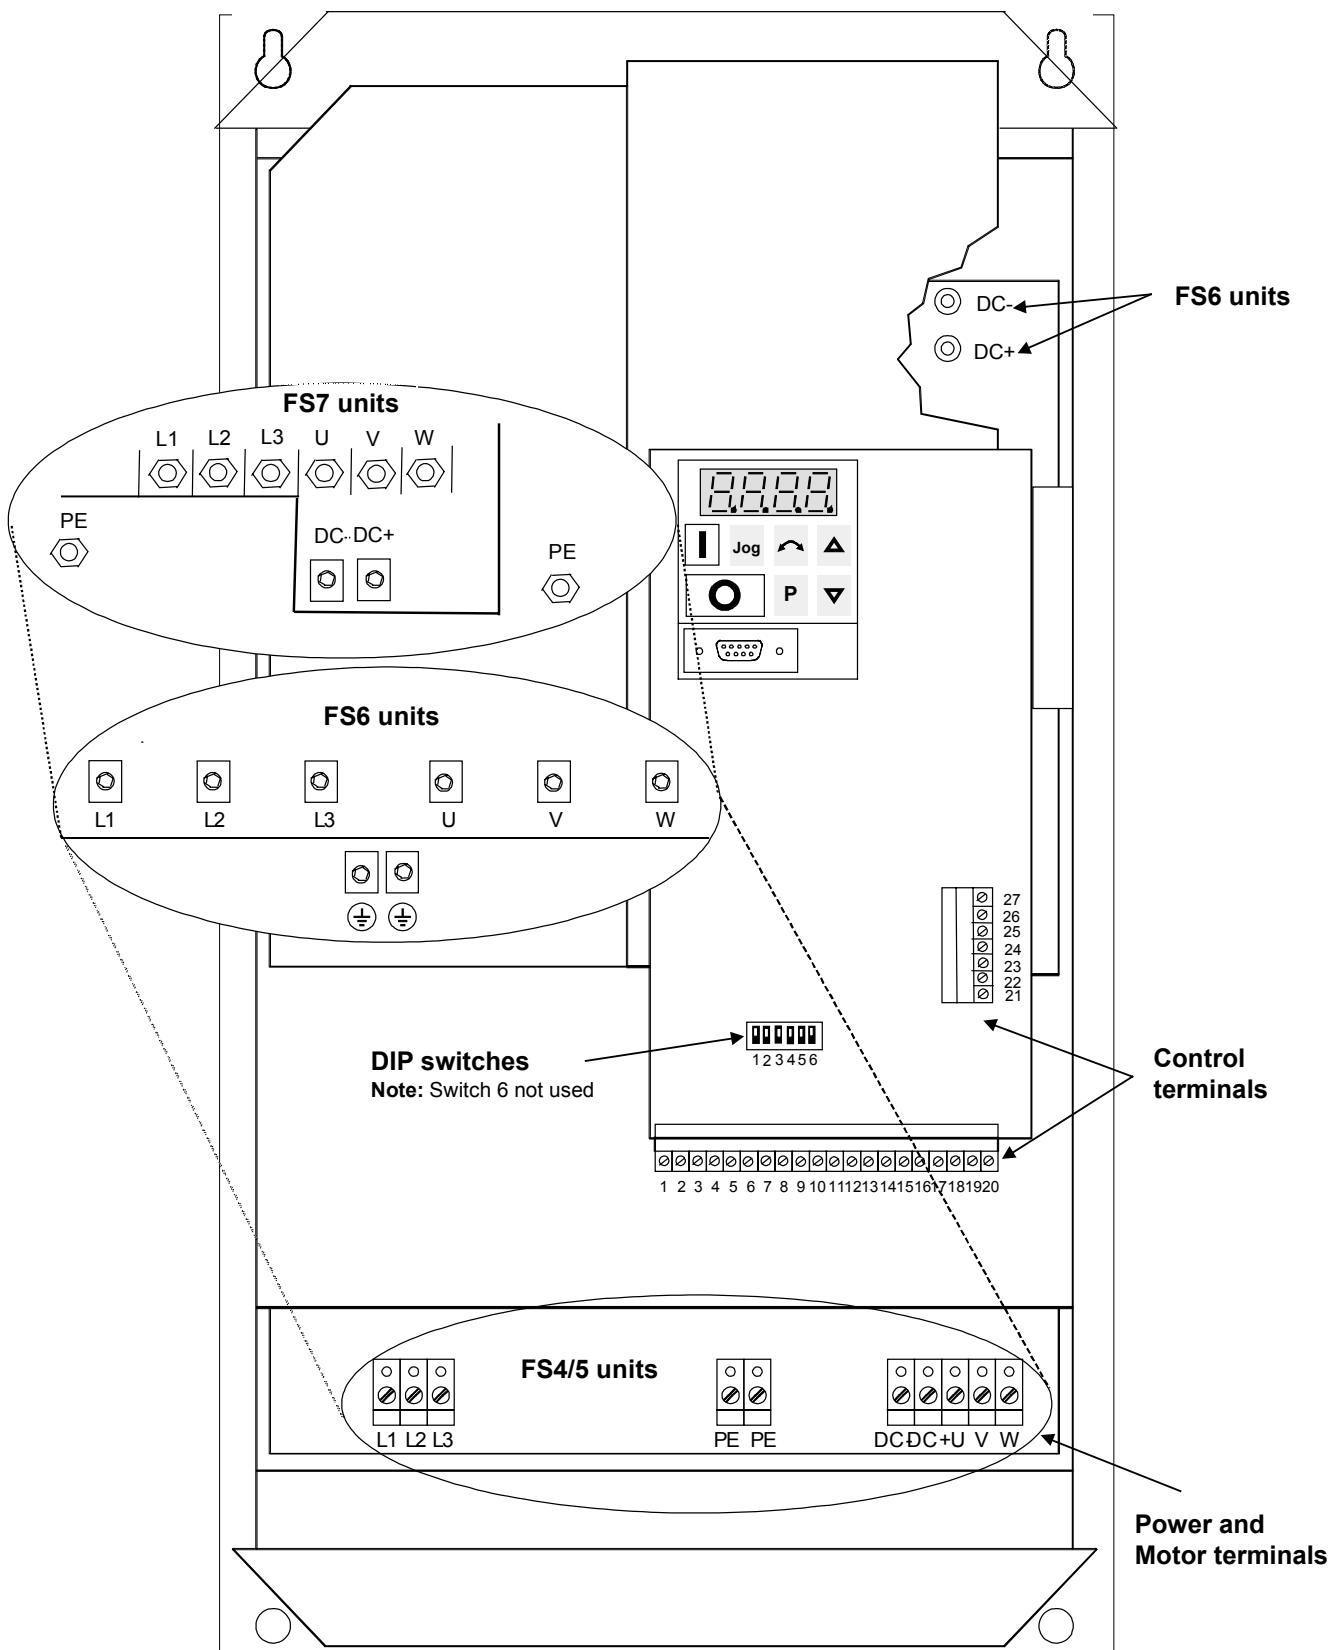

Figure 3.2.1: MIDIMASTER Vector Connectors
The electrical connectors on the MIDIMASTER Vector are shown in Figure 3.2.1.
2. Connect the power input to the power terminals L1, L2, L3 (3 phase) and earth (PE) (*shown in Figure 3.2.1*) using a 4-core cable and lugs to suit the cable size. For the cross-section of each core, see section 8.
3. Use a 4-core screened cable and suitable lugs to connect the motor leads to the motor terminals U, V, W and earth (PE) (*shown in Figure 3.2.1*).
Control connections to the MIDIMASTER Vector are made via two terminal blocks located as shown in Figure 3.2.1. The terminal blocks are of a two-part design. The part containing the screw terminals can be unplugged from it's housing before wires are connected. When all connections to the terminals have been made (as shown in Figures 3.2.1 and 3.2.2) and secured, the terminal block must be plugged firmly back into it's housing.
- for Frame size 4, 5 and 6 the front cover is removed (see Figure 3.2.1).
- for Frame size 7 the lower front cover is removed (see Figure 3.2.1).